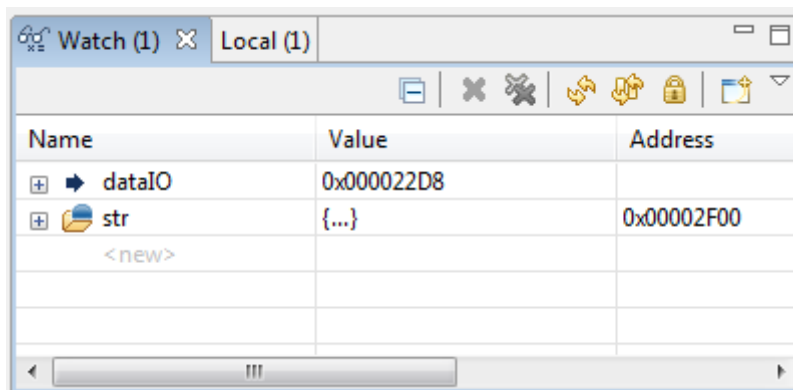

Figure 16: watch window with a watch on dataIO and a structure (str)
- Hit return to save the change. In **Value** column braces ({...}) should immediately appear as in figure 16.